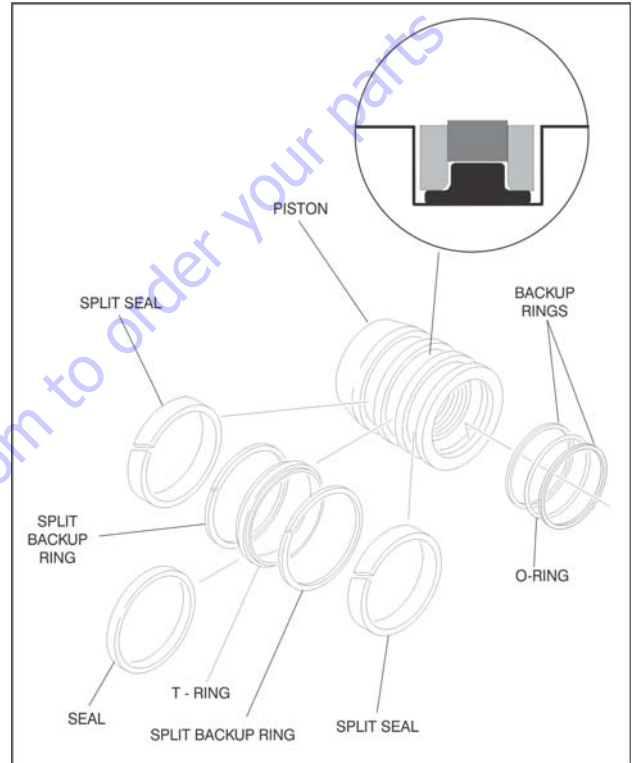

Figure 5-9. Piston Seal Kit Installation
**NOTE:** The backup rings for the solid seal have a radius on one side. This side faces the solid seal. (See magnified insert in Figure 5-9.) The split of seals and backup rings are to be positioned so as not to be in alignment with each other.
16. Place new guide locks and seals in the applicable outside diameter grooves of the cylinder piston. (See Figure 5-9., Piston Seal Kit Installation)